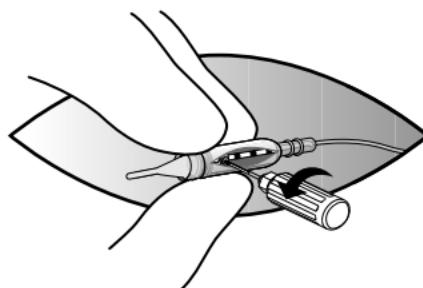

Figure 6. Loosen setscrew.
6. Using the torque wrench, loosen the setscrew in the setscrew connector block by turning the wrench counterclockwise (approximately one turn) (Figure 6).